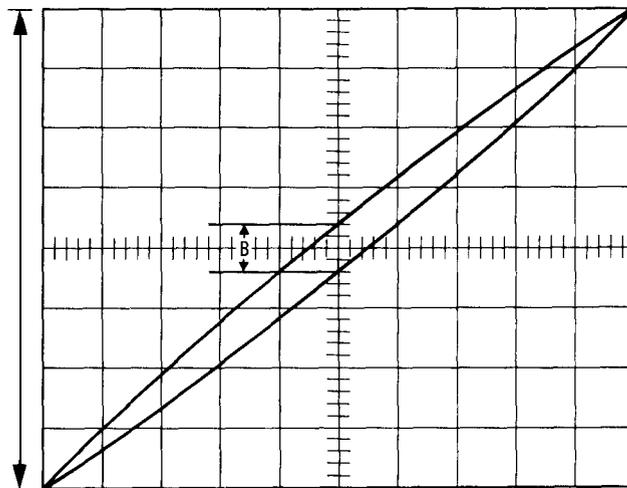

Figure 4-24. Lissajous Display
- Set the oscilloscope's horizontal axis to sweep from an external input, dc coupled with no magnification. Set the vertical input to dc. Adjust the vertical and horizontal sensitivity y to form a Lissajous pattern which fills the display as shown in Figure 4-24.